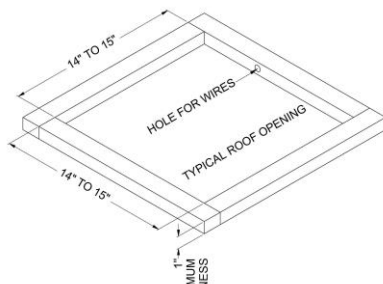

Figure 1
mounting frame must be field fabricated to reduce the opening size (See Figure 1).
- B. If a roof vent opening is not used, a new opening (See Figure 1) will have to be cut into the vehicle roof. A matching opening will also have to be cut into the interior vehicle ceiling. If the ceiling opening is carpeted, snagging could occur. After the opening in the roof and interior ceiling are the correct size, a framed support structure must be provided between the exterior roof top and the interior ceiling. The reinforced frame structure must provide the following:
Airxel, Inc. requires that the spacing from the vehicle roof top to the interior ceiling be no less than 1". A typical support frame is shown in Figure 1.